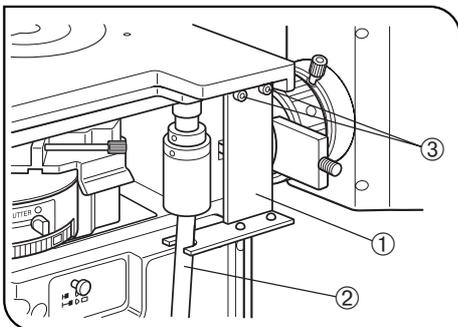

Fig. 90
(Figs. 90 & 91)
1. Insert the stalk ② of the flexible X-axis/Y-axis knobs into the U-shaped notch on the positioning bracket ①. (Fig. 90)
2. Using the Allen screwdriver, tighten the clamping screw ③ of the bracket lightly to the stage. (Fig. 90)